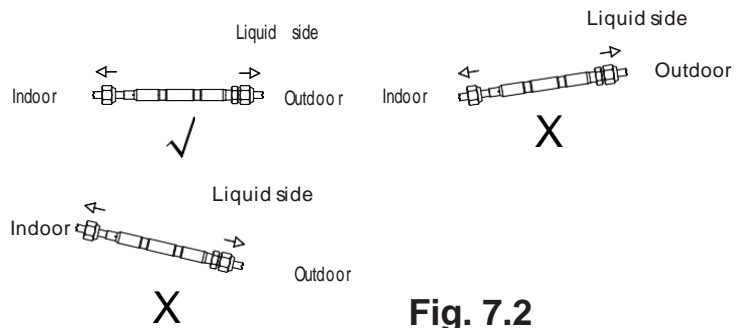

Fig. 7.2
- Refer to the Fig. 7.2 when installing .